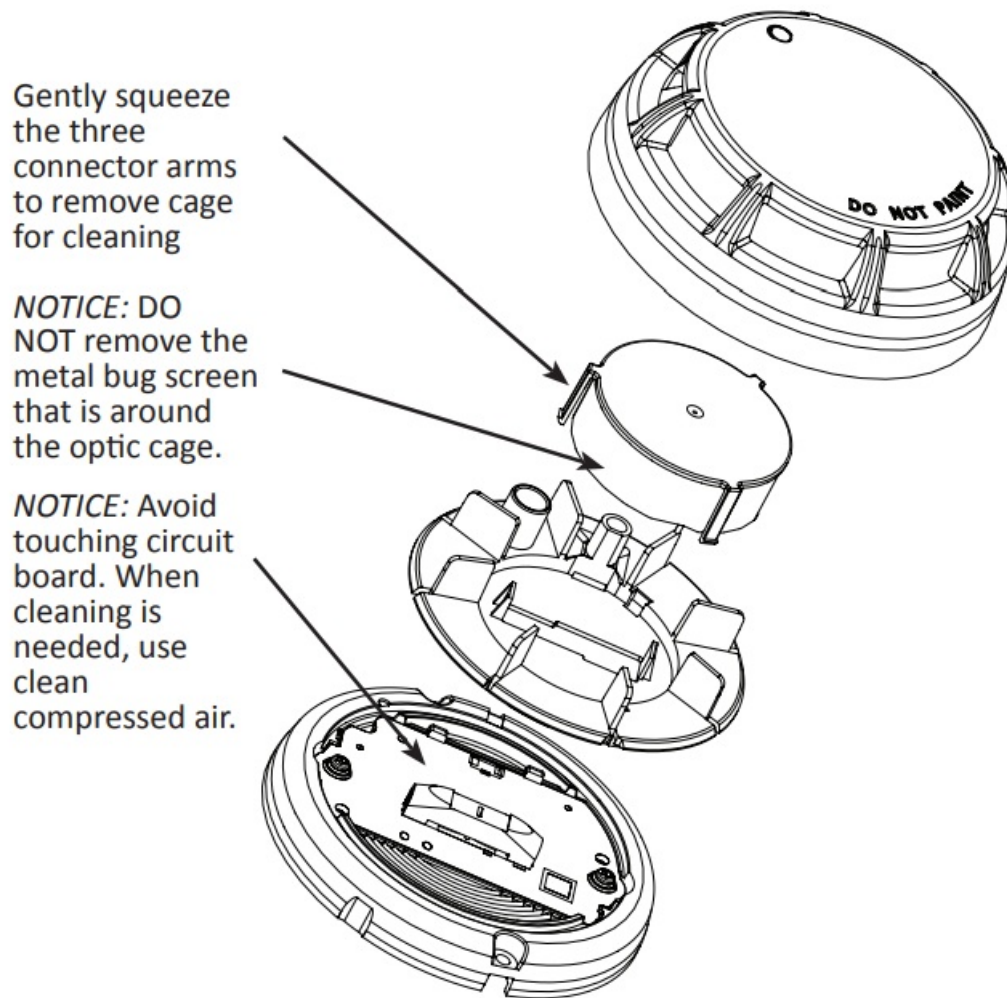

FIGURE 4
4. Remove optic cage (FIGURE 4) from detector circuit board by gently gripping the sides of the optic cage base and lifting from detector circuit board.
5. Remove optic cage from optic cage base, by gently squeezing the three connector arms and very gently lifting from optic cage base (FIGURE 4).